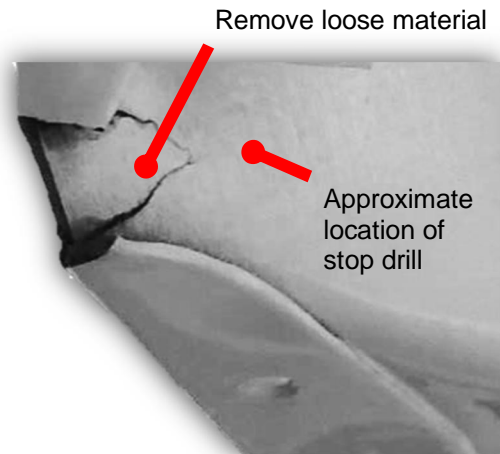

Figure 2 — Remove Material
- 2.1.3 Remove and discard any loose material, or material suspected to become loose as shown in Figure 2.